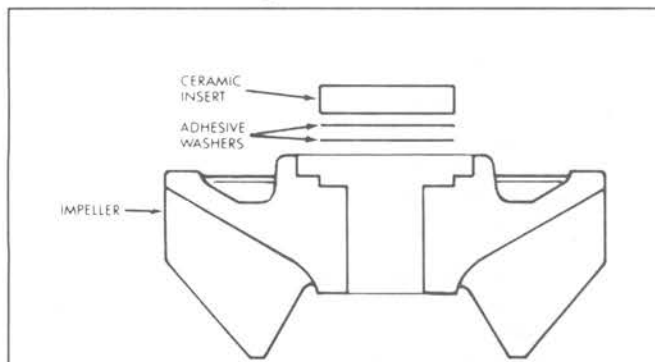

Fig. 8 – Insert, Adhesive Washer, Impeller Stackup
- c. Place Two (2) adhesive washers in the impeller bond area with the ceramic insert on top. The polished face of the ceramic insert should be visible to the assembler (Fig. 8).